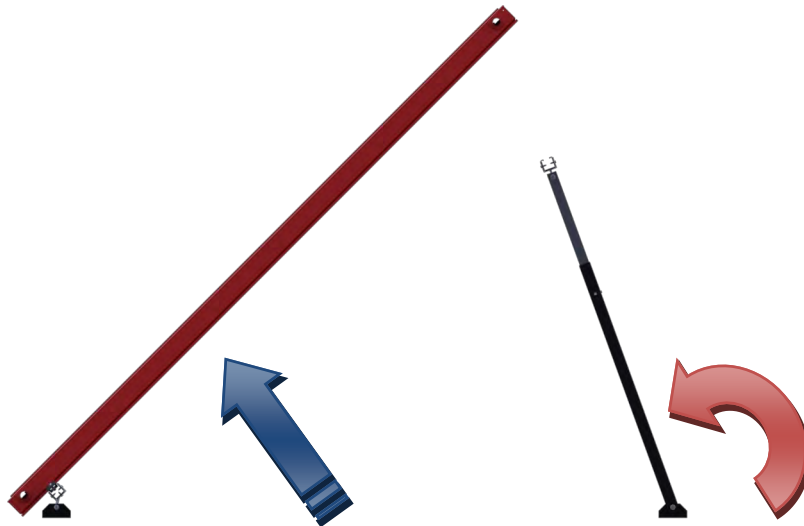

Figure 6
5. Swing rear leg assembly and position the Upper Support Strut so that it is 20% inboard of the Collectors top edge. As shown in *Figure 6*.